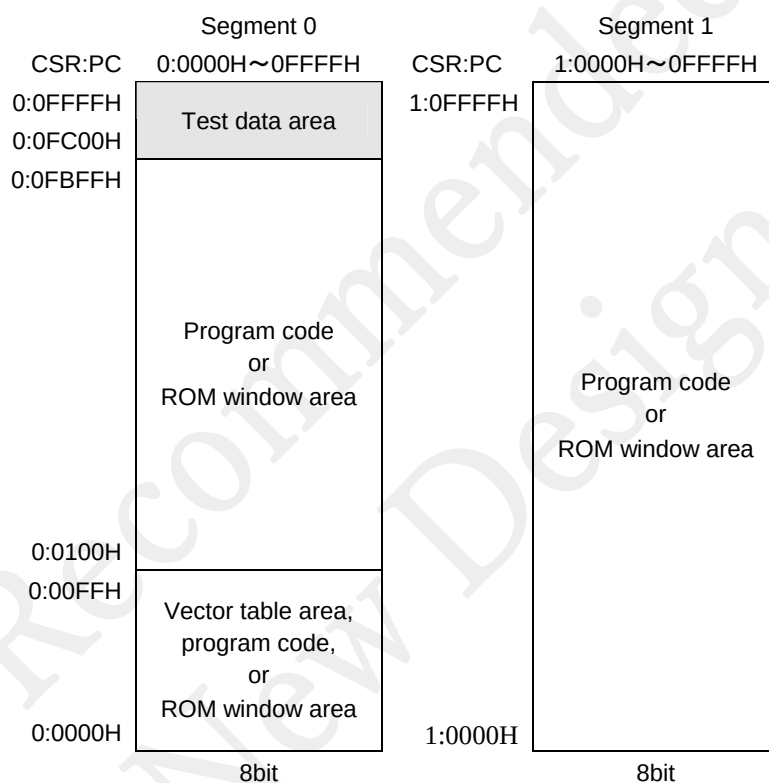

Figure 2-1 Configuration of Program Memory Space
The program memory space is used to store program codes, table data (ROM window), or vector tables. The program codes have a length of 16 bits and are specified by a 16-bit program counter (PC). The ROM window area contains data having a length of 8 bits and can be used as table data. The vector table, which has 16-bit long data, can be used as reset vectors, hardware interrupt vectors, and software interrupt vectors. The program memory space consists of 2 segment and has a total capacity of 128 Kbytes (64 Kwords). Figure 2-1 shows the configuration of the program memory space.